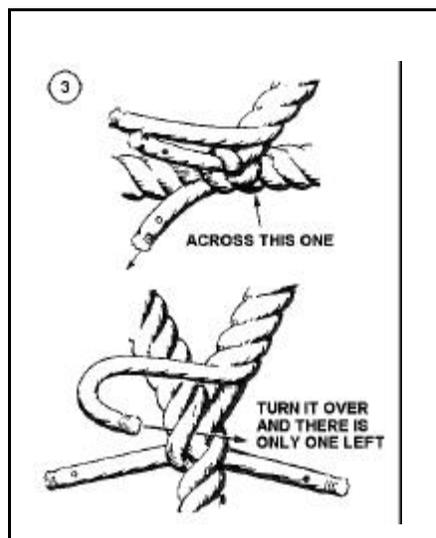

Figure 12-31. Last Tucks of an Eye Splice
- **Step 3.** Now turn the incomplete eye over as shown. Check the third strand to be sure that it has not unlaid more. If it has, twist it back to where it should be. Take the last strand and put it across the standing part, turn its end back toward you, put it under the strand over which the first tuck was made, and tuck it in a direction toward you. This results in the third tuck going to where the second came out and coming out where the first went in. After this round of tucks, there is a strand in each lay (Figure 12-31).